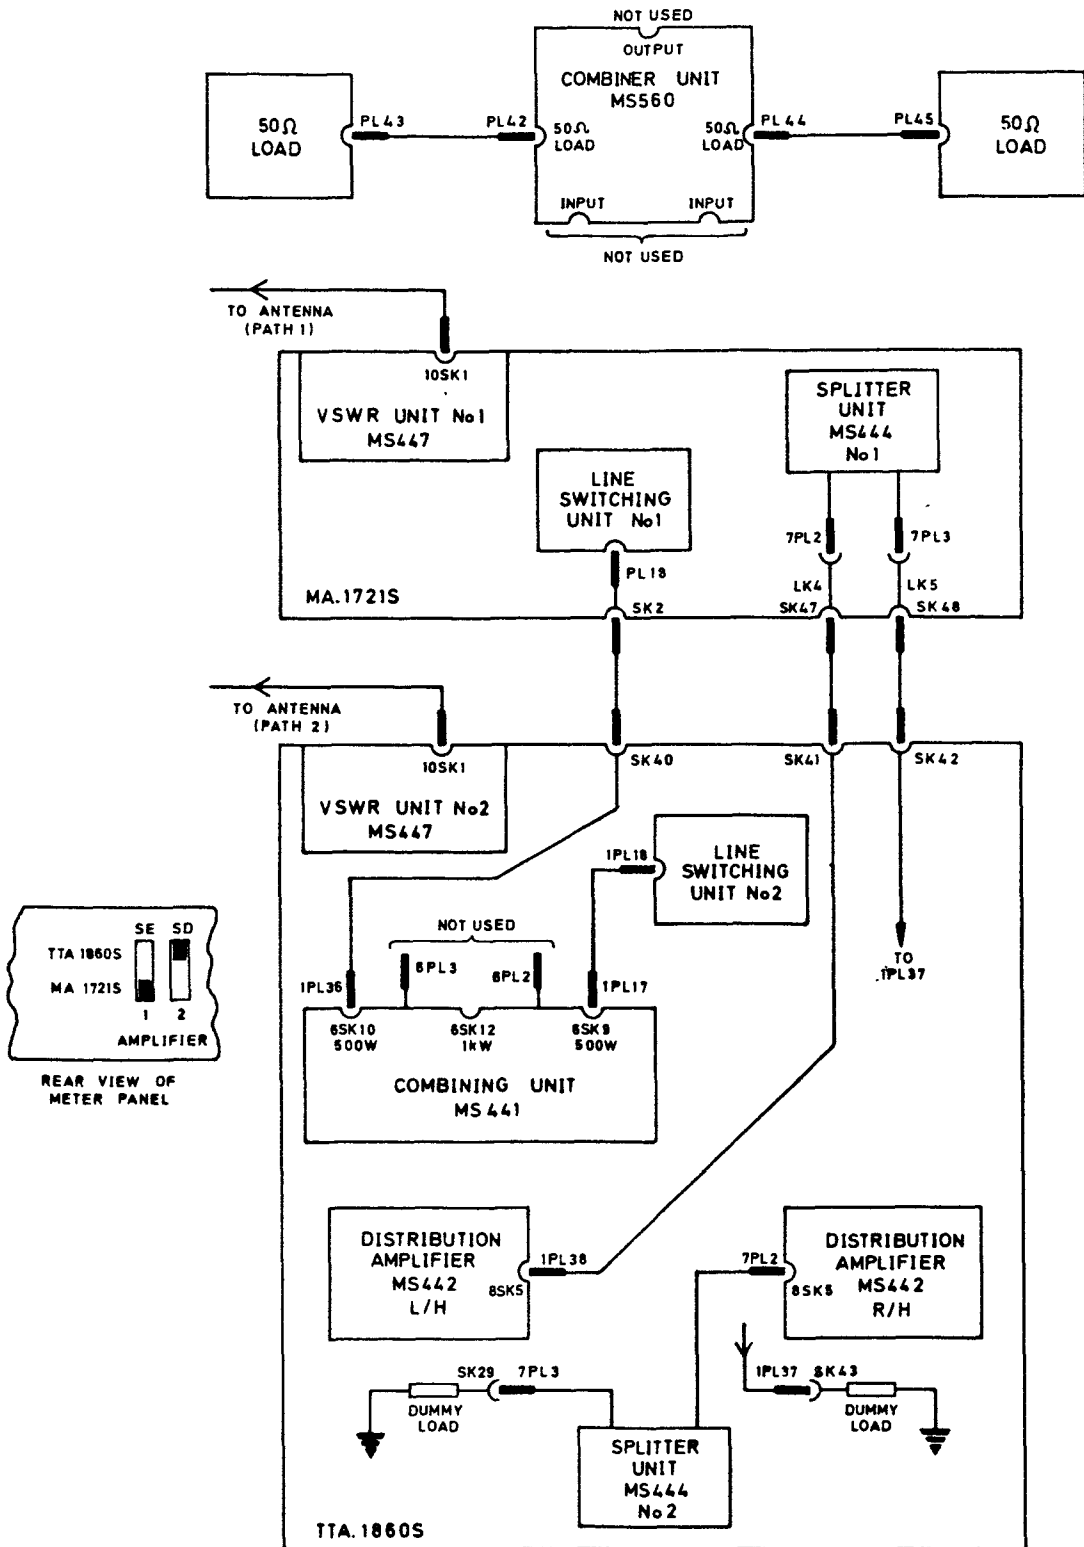
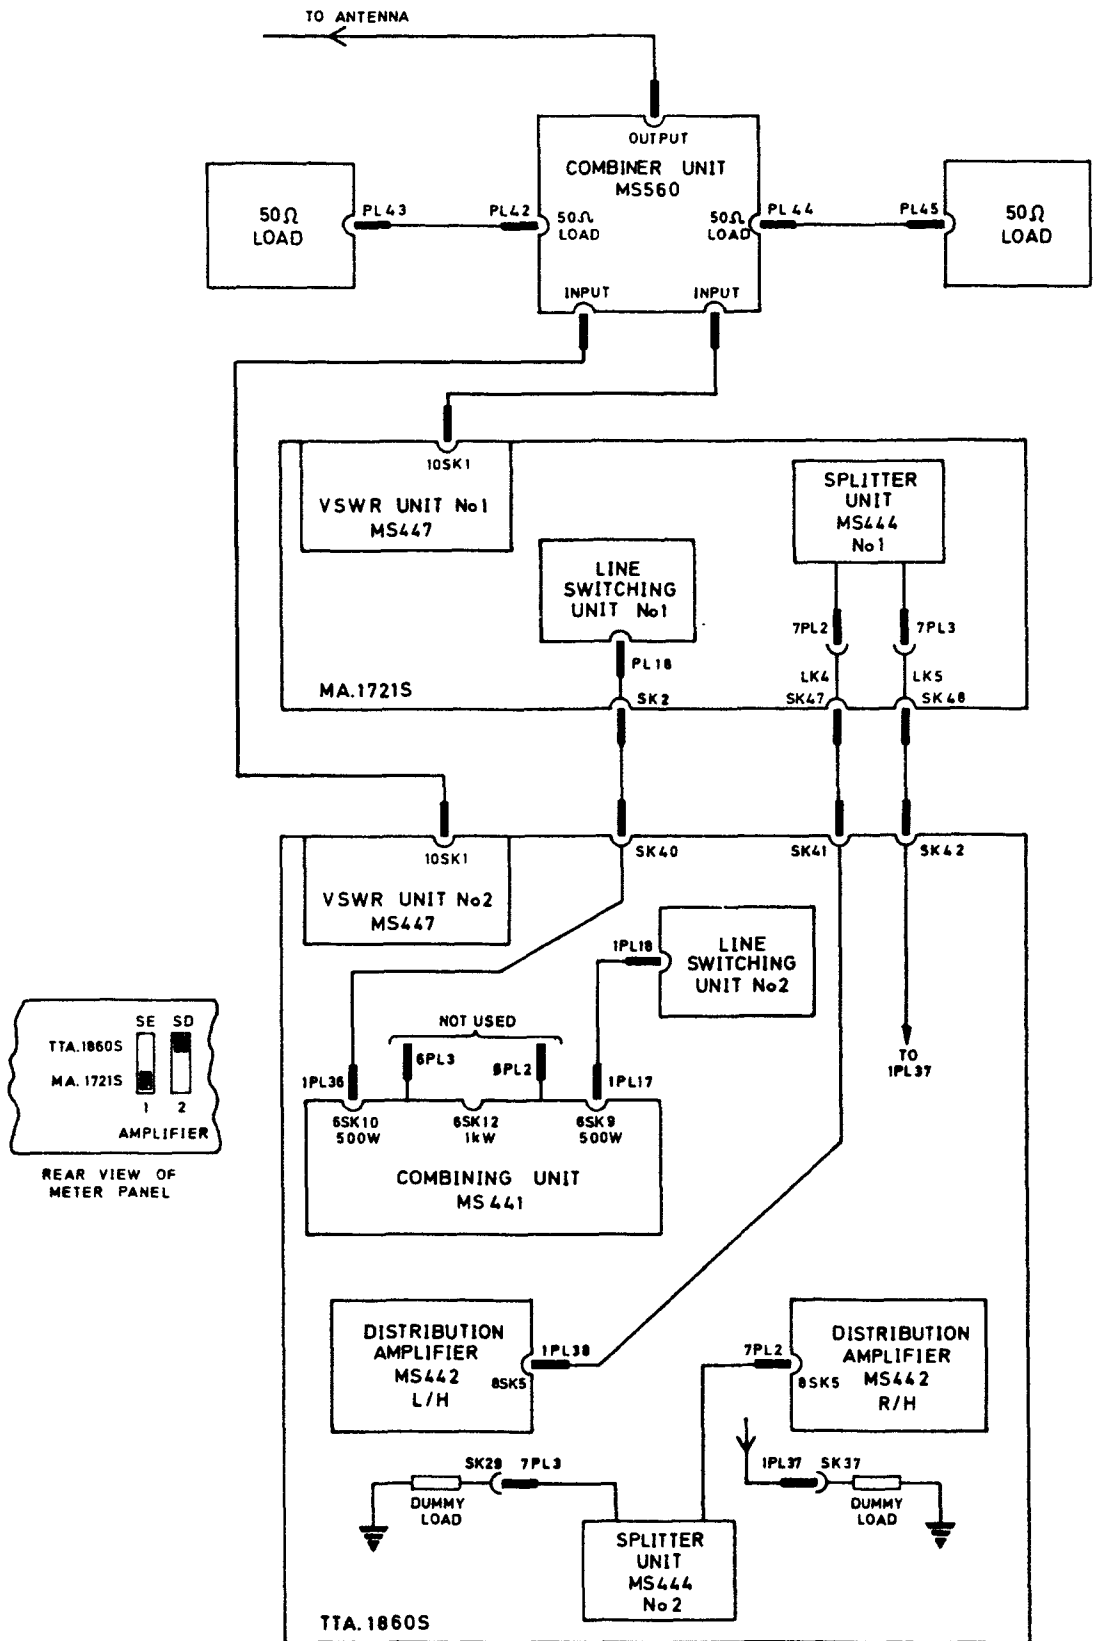

Fig.3 Dual-drive to separate antennas : r.f. cable patching
Fig.4 Dual-drive to common antenna : r.f. cable patching
23. Carry out the procedures given in para. 7(2) to 7(7) for MA.1004 No.1 and MS.139 No.1.
24. The procedures are given for the 'dual-500W to separate antennas' configuration (fig. 3); the r.f. patching requirements for the other configurations will be evident from fig.4 to 6.
- (6) Check that the unused cables are stowed correctly. Close the meter panel.
- (7) Remove the power supply front panel.
- (8) Check that the following r.f. connections have been made:-
- (9) Re-fit the power supply front panel.
- (10) Check that the inter-cabinet wiring is in accordance with fig. 3.